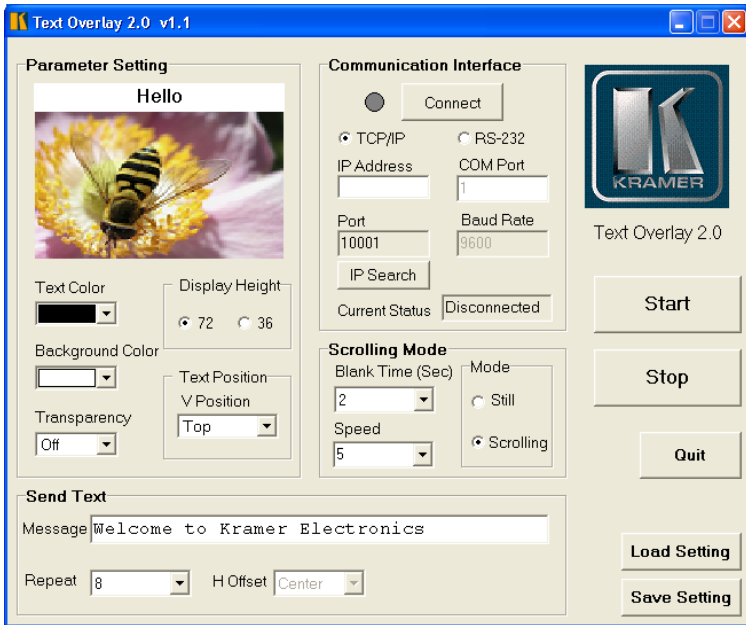

Figure 23: Text Overlay Application Screen
**Figure 23** defines the Text Overlay Application Screen: